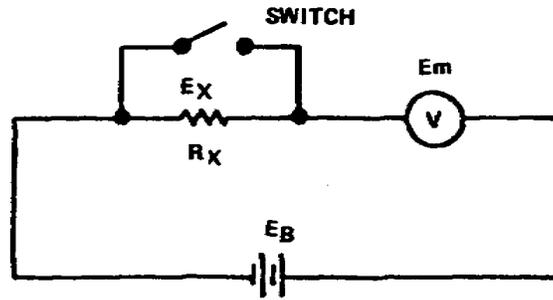

Figure 1-12. Determining value of unknown resistance of voltmeter
b. If the resistance is high, the voltmeter method can be used. With the voltmeter method, a voltmeter with known resistance is connected in series with the unknown resistance (fig 1-12).
(2) In the circuit shown in Figure 1-12 you can find the current in the shunt ( $I_s$ ) and the total current ( $I_t$ ) in the circuit. For example, if the shunt resistance ( $R_s$ ) is equal to 1/5th the value of the resistance of the coil ( $R_c$ ), and current through the coil ( $I_c$ ) is 0.5 milliampere, there is 5 times as much current through the shunt ( $I_s$ ) as through the coil ( $I_c$ ), because the current divides in inverse proportion to the resistance; therefore, the current through the shunt is  $2.5(5 \times 0.5)$  milliamperes. The total current in the circuit is 3 ( $0.5 + 2.5$ ) milliamperes. The total current in the circuit is 3 ( $0.5 + 2.5$ ) milliamperes.